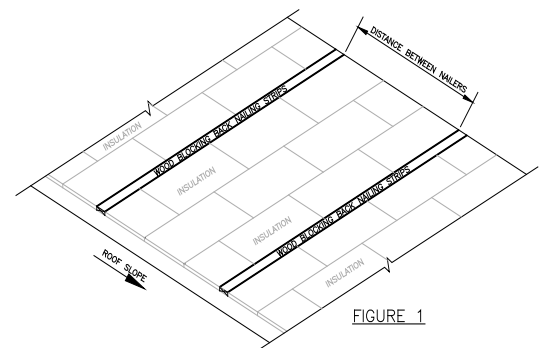

FIGURE 1
3. For slopes from 1-1/2" per foot to 3" per foot, nailers must be installed perpendicular to the direction of the slope and spaced a maximum of 32' apart (see Figure 1) when the insulation is attached with fasteners or an approved low rise foam adhesive (as determined by deck type).
4. For slopes from 1-1/2" per foot to 3" per foot, nailers must be installed perpendicular to the direction of the slope and spaced a maximum of 16' apart (see figure 1) when insulation is attached with hot asphalt (as determined by deck type).
5. For slopes greater than 3" per foot to slopes to 6" per foot, nailers must be installed perpendicular to the direction of the slope and spaced a maximum of 16' apart (see Figure 1) when insulation is attached with fasteners or an approved low rise foam adhesive (as determined by deck type).
6. For slopes greater than 3" per foot to slopes to 6" per foot, nailers must be installed perpendicular to the direction of the slope and spaced a maximum of 8' apart (see Figure 1) when insulation is attached with hot asphalt (as determined by deck type).